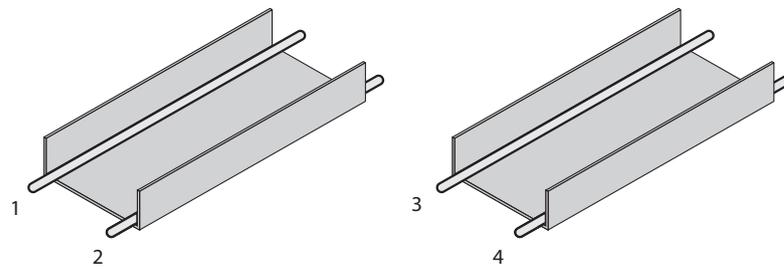
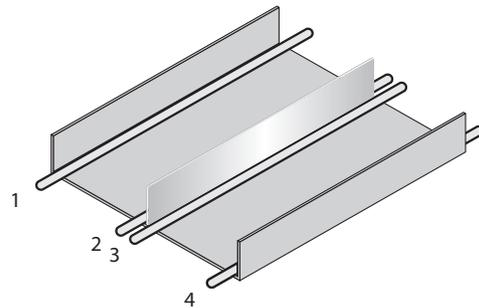

Figure 3: Ideal laying - Place cables in different cable channels
Figure 4: Alternative laying – Separate cables with metallic separators
- ▷ Cables in groups 1, 2 and 3, 4 must be routed in different cable channels or metallic separators must be used see figure 3 and see figure 4. This applies particularly where cables of devices with a high level of radiated emission, such as frequency converters, are laid parallel to sensor cables.